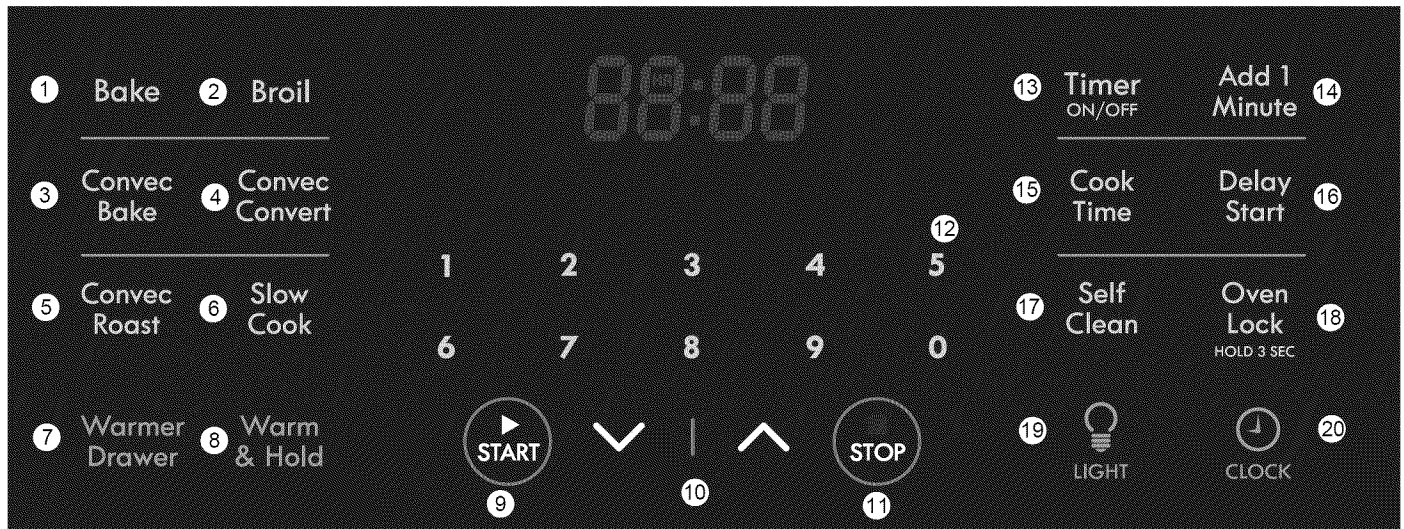

Figure 11: Surface control knob
2. Push the desired surface control knob in and turn counterclockwise out of the OFF position (See Figure 11).